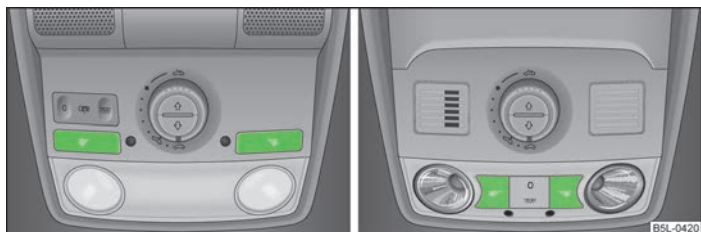

Fig. 31 Reading lights
- Press switch ☞ or ☞ » Fig. 31 to switch the reading lights on or off.